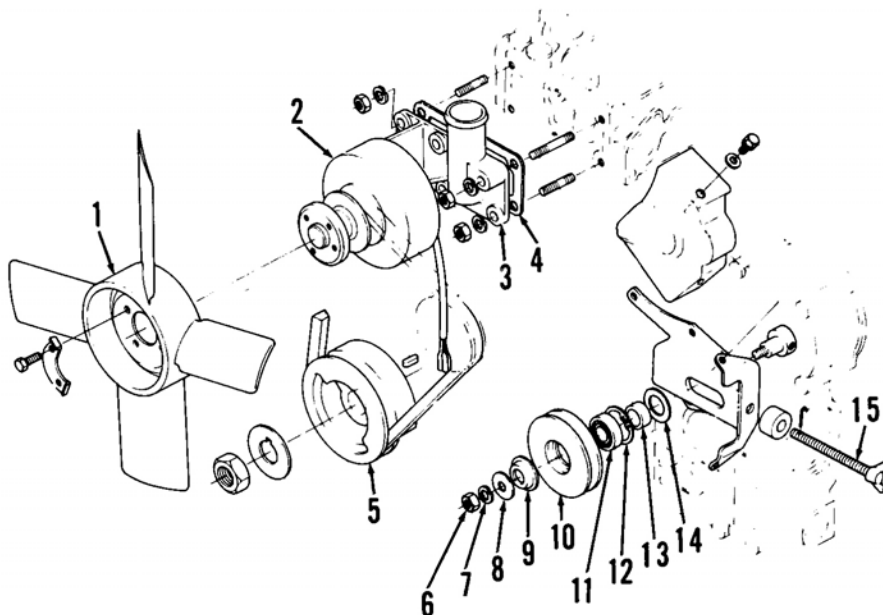

Fig. 34—View of alternator and tensioner pulley.
47. All engines are liquid cooled and use a thermo-siphon type cooling system. Note that cooling fan (1—Fig. 34) is mounted on alternator (2). Recommended pressure rating for radiator cap is 88.25 kPa (13 psi).